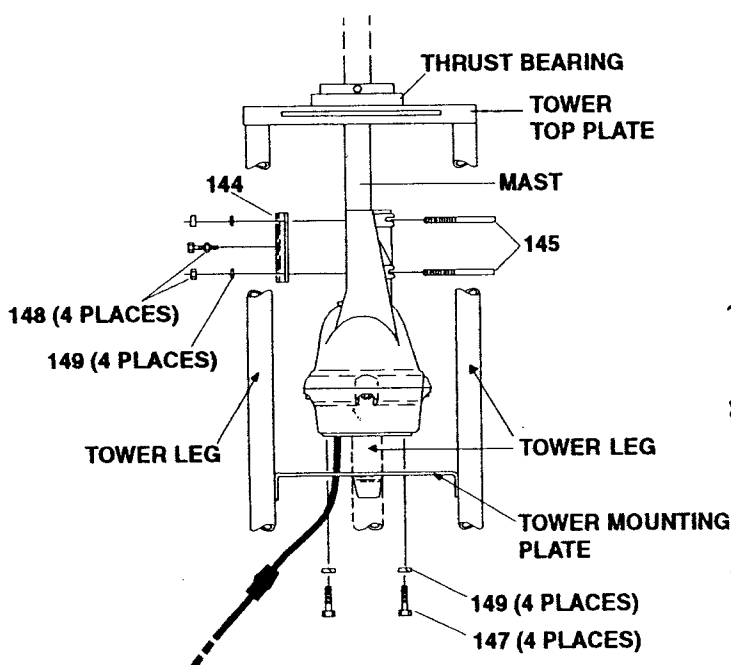

Figure 4
There are three general types of installations (see Figures 4, 5 and 6).
The rotator is mounted inside a tower (see Figure 4) to the flat tower plate by means of four (4) bolts furnished in the hardware kit. Use the following procedure:
3. The rotator is attached to the tower plate by means of four (4) bolts and lockwashers (see Figure 4). The flat tower plate must be drilled in four (4) places using the template provided with this manual unless the tower plate is already properly drilled.
4. Tighten the four (4) bolts, but not to final tightness. Observe how the rotator turns. It must rotate in such a manner as to turn the mast concentrically in the thrust bearing.
5. Trial assemble the mast to the top of the rotator using the U-bolts, nuts and lockwashers through the rotator and clamp plate as shown in Figure 4. The maximum mast diameter that may be used is 2 1/16" O.D. We recommend 1 1/2" nominal steel pipe with 1.9" O.D. in standard wall thickness of .145". For stacked arrays or very large beams, we recommend extra heavy-duty wall thickness of .200". Both steel pipes can be purchased to specification ASTM-120.